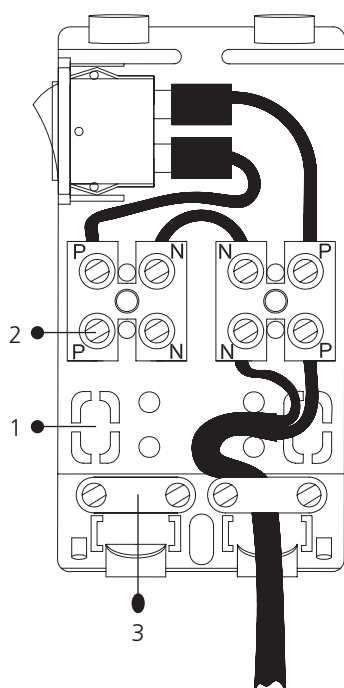

Fig. 4
2. Electrical connection with mains: fix the mains in clamp (2) and clamp the mains with the cable clamp (3) (see fig. 4).
Electrical connection with flush connection: open the basis at the defined place (1) and connect the connection wires (230/240 V) to the clamp (2) (see fig. 4).